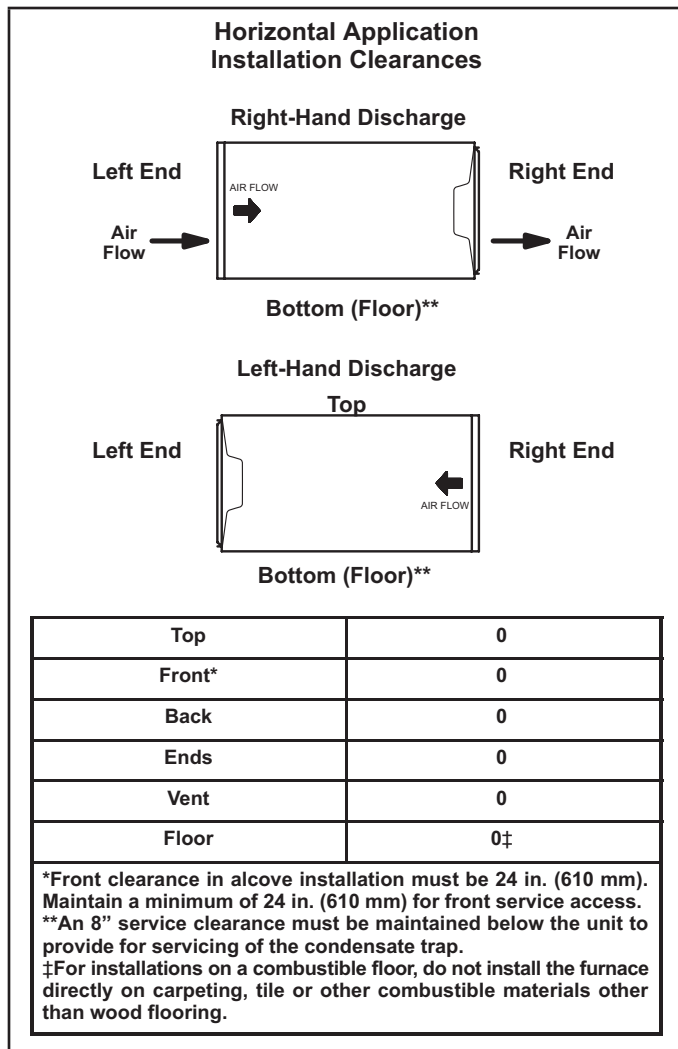

FIGURE 17
The ML296UHV furnace can be installed in horizontal applications with either right- or left-hand air discharge. Refer to FIGURE 17 for clearances in horizontal applications.
- 1 - Select location for unit keeping in mind service and other necessary clearances. See FIGURE 17.